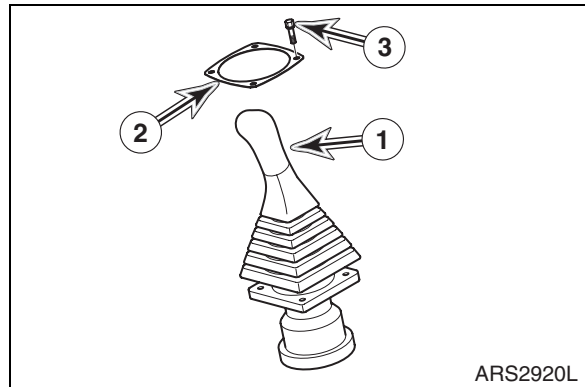

Figure 7
19. Remove four bolts (3, Figure 7) and cover (2), and pull remote control valve R.H. (1) out.
20. Tag and disconnect hoses from remote control valve R.H. (1, Figure 7). Plug and cap hoses and ports to prevent contamination from entering hydraulic system or component.